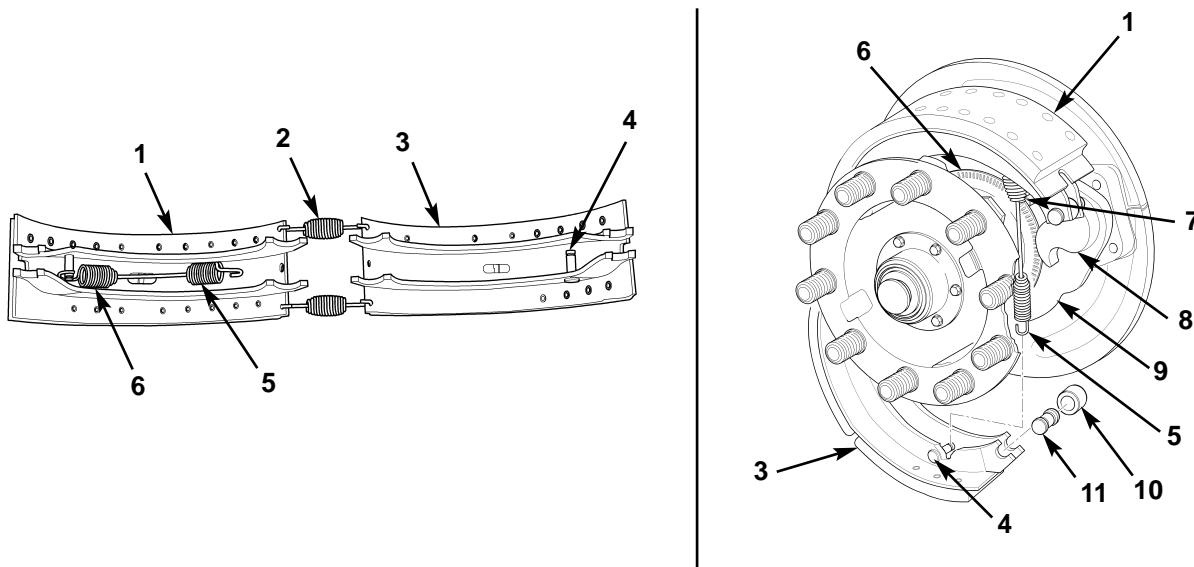

Figure 7. Positioning Wheel Sensor and Installing Brake Shoes.
13. Push in wheel sensor (figure 7, item 7) until it contacts tone ring (figure 7, item 6).
14. Position upper and lower brake shoes (figure 7, Items 1 and 3) on brake spider (figure 7, item 9) with two shoe retaining springs (figure 7, item 2) connected.
15. Secure upper and lower brake shoes (figure 7, Items 1 and 3) at camshaft (figure 7, item 8) by connecting hook ends of shoe release spring (figure 7, item 5) to pin (figure 7, item 4) on upper and lower brake shoes (figure 7, Items 1 and 3).
16. Using suitable pry bar, lift upper brake shoe (figure 7, item 1) at camshaft (figure 7, item 8), and position roller (figure 7, item 10) and shoulder pin (figure 7, item 11) between upper brake shoe (figure 7, item 1) and camshaft (figure 7, item 8).
17. Repeat step 16 to install roller (figure 7, item 10) and shoulder pin (figure 7, item 11) on lower brake shoe (figure 7, item 3).